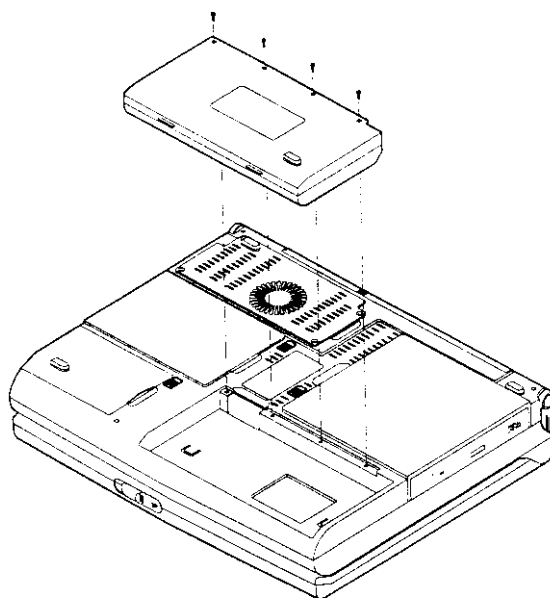

Figure 1-4
3. Install the four screws that fasten the battery pack (Figure 1-4).